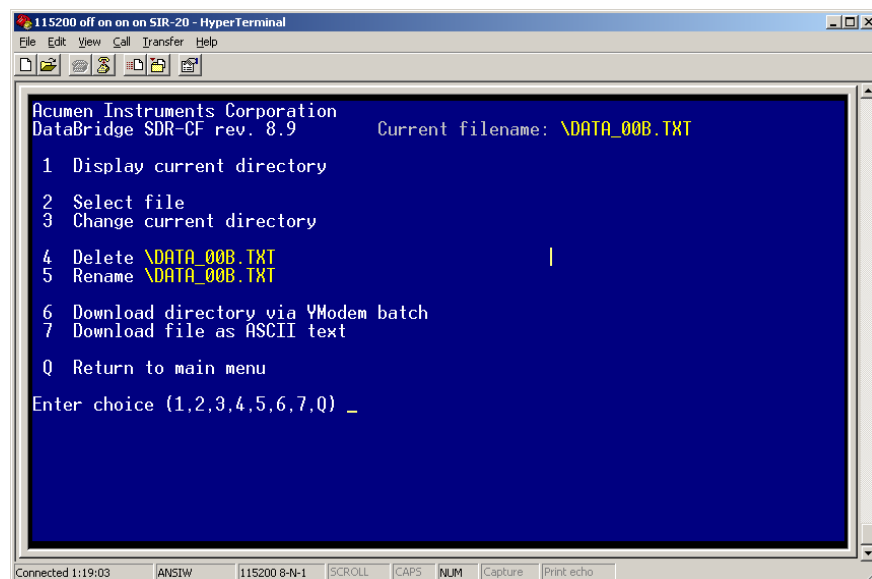

Figure 3: File System Functions menu.
- 12** From the Main menu, press **7** to view the File System Functions menu (Figure 3). Again, ensure the settings agree and press **Q** when done. Keep in mind that Current filename should conform to your file naming convention.
- 5** You can create the Current filename format using menu item 1, Change target file.
- 6** Set menu item 2, Toggle overwrite-oldest mode, to OFF.
- 7** Set menu item 3, Toggle append mode” to OFF.
- 15** From the Main menu, press 7 to view the File System Functions menu (Figure 3). Again, ensure the settings agree and press Q when done. Keep in mind that Current filename should conform to your file naming convention.